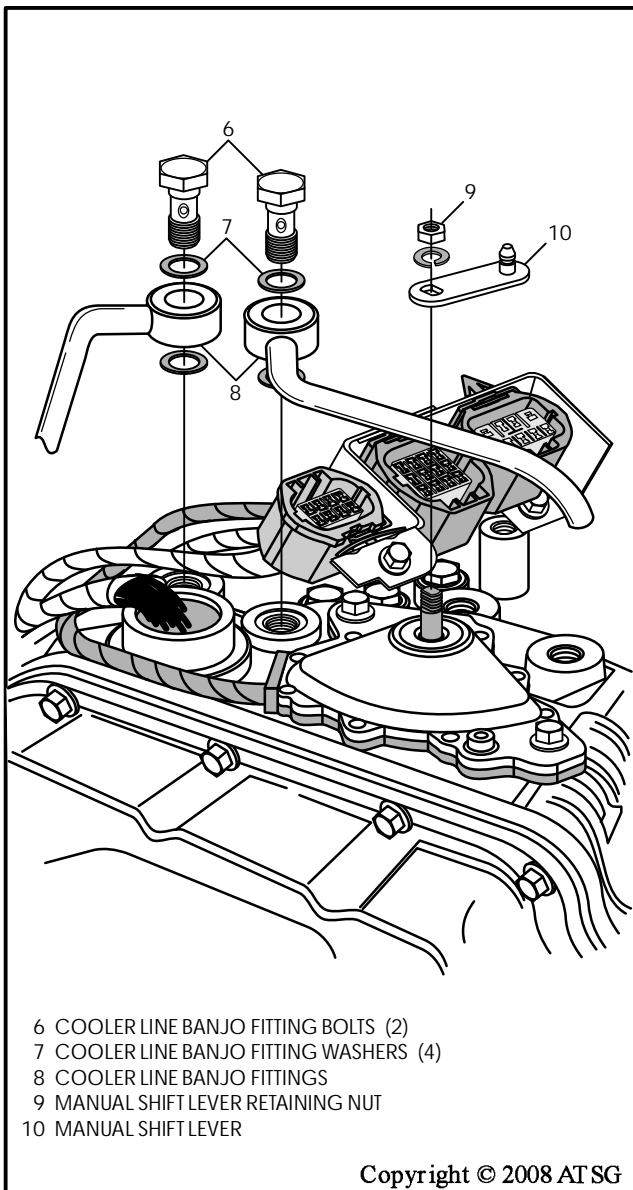

Figure 33
5. Remove both cooler line banjo fitting bolts and cooler lines, as shown in Figure 33.
6. Remove the external manual shift lever nut, washer and lever, as shown in Figure 33.